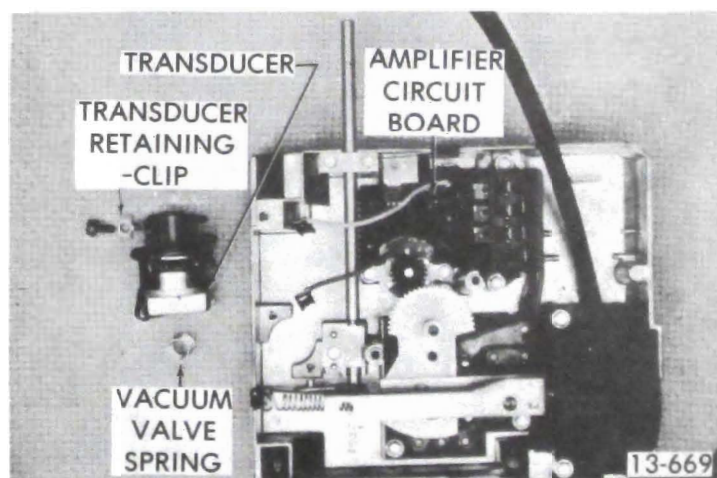

Figure 13-147 Transducer - Removed
1. Replace transducer, retaining clip, and hex screw. See Figure 13-147.
2. Reconnect the two (2) electrical terminals to the transducer.
3. Reconnect the two (2) vacuum hoses to the transducer. The white hose goes to the larger port of the transducer and the black hose from the vacuum valve goes to the smaller port of the transducer.